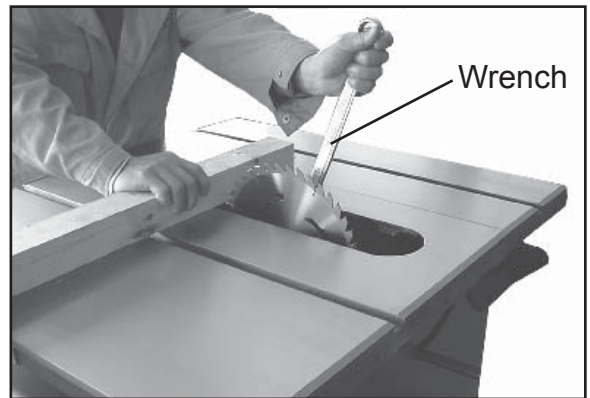

Figure 22
4. To remove the blade place a wood scrap in the blade's teeth at the front of the machine. Hold the block of wood in such a way that if it slips or the blade turns, your hand will not contact the blade. Loosen arbor nut by pulling wrench toward the front of the machine.(Fig. 22)